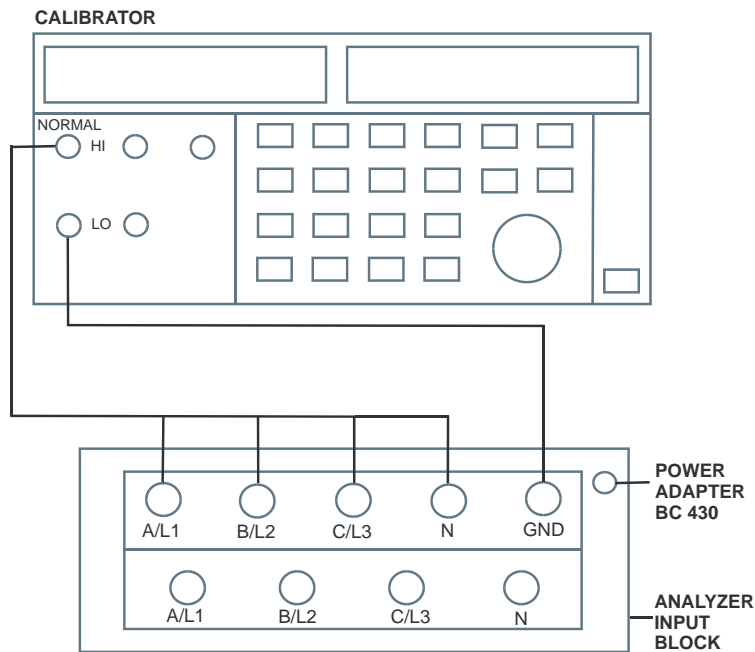

Figure 4-3. Checking the N (Neutral) voltage input
2. To check the A/L1, B/L2, C/L3 inputs, connect the N input to Ground (See Figure 4-3). N now will give zero reading.
2. To check the A/L1, B/L2, C/L3 inputs: connect the N input to Ground (See Figure 4-3).